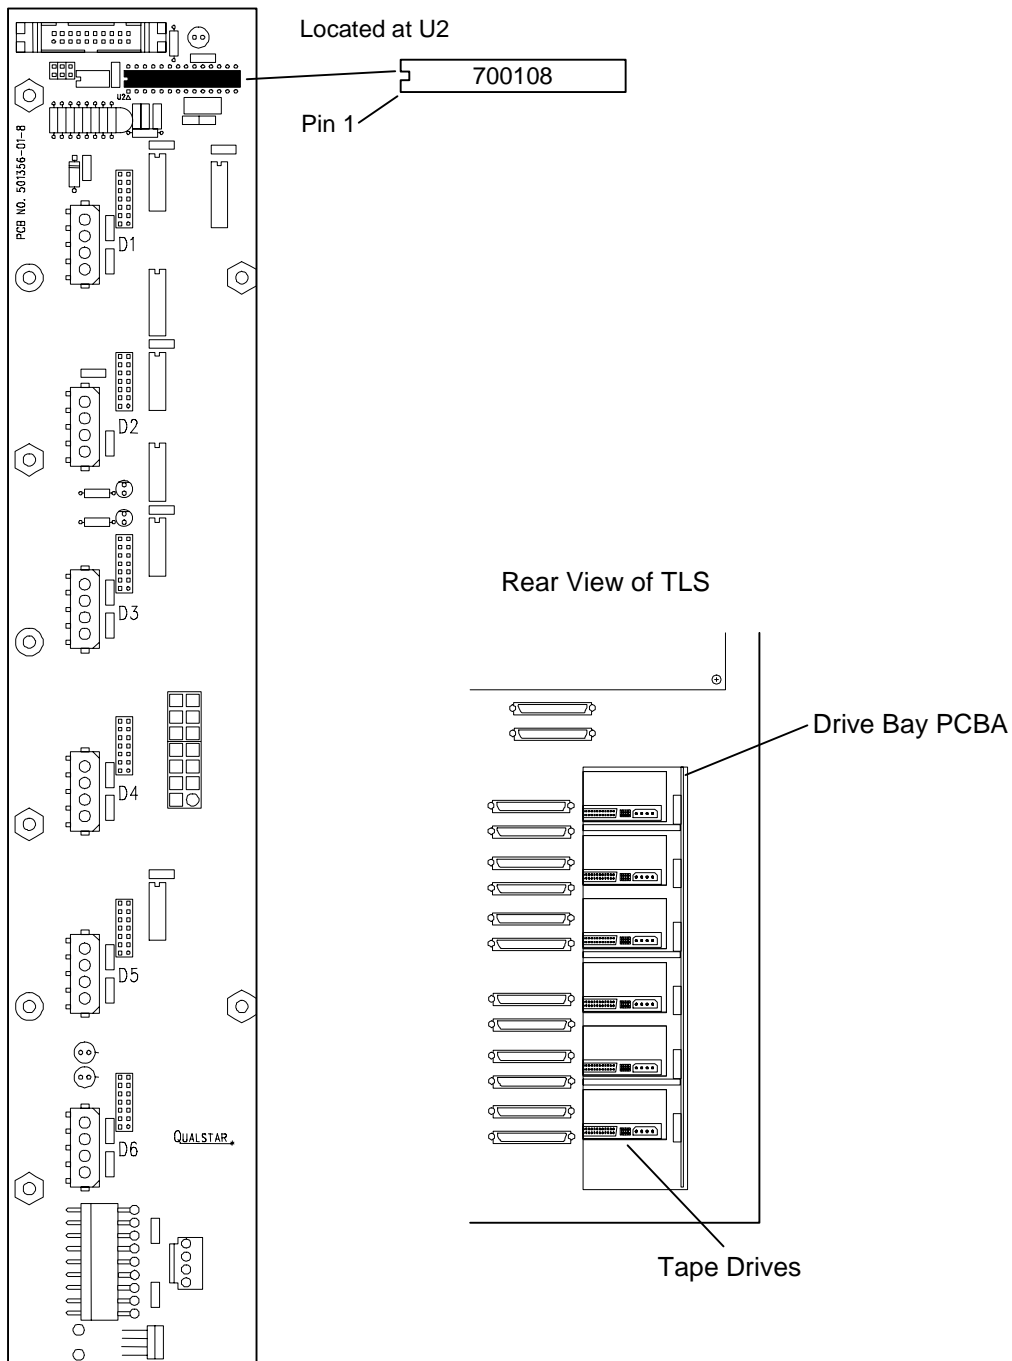

Figure 8-19 Drive Bay Board
3. Locate the Drive Bay PCBA (Figure 8-19). Remove the Flash-Memory IC at U2 from the Drive Bay board (Figure 8-19) using a flat blade screwdriver or equivalent tool. Pry the IC from either end slightly and repeat for the other end. Be careful not to bend the legs of the IC. Continue this procedure until the part is loosened enough to be removed by hand.